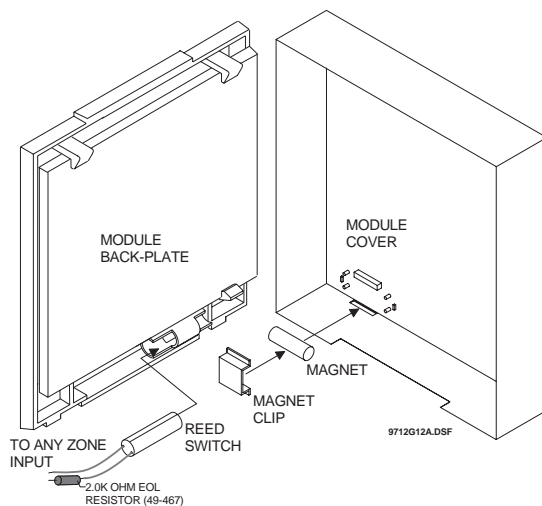

Figure 9. Installing the Reed Switch
To install the tamper reed switch (Figure 9):
1. Slide the reed switch into the reed switch holder located on the module back-plate shown in Figure 9.
2. Insert the magnet into the nibs on the module cover. Remove the magnet clip from the module back-plate and press the magnet clip down over the magnet until it clicks into place (Figure 9).